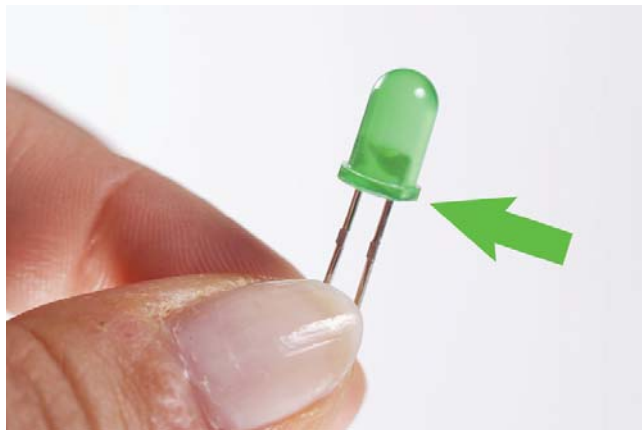

Figure 1-6. Negative leg of the LED
2. Look at your LED and determine which lead has a flat side above it on the colored plastic housing—this indicates the negative lead of the LED (the negative lead is also the shorter of the two), as shown in Figure 1-6. LEDs have a certain *polarity* and putting them in backward might damage them.